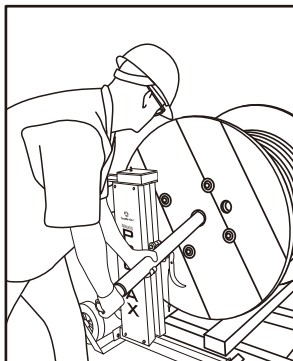

Fig. 3
5. Place axle into spool (Fig 3).